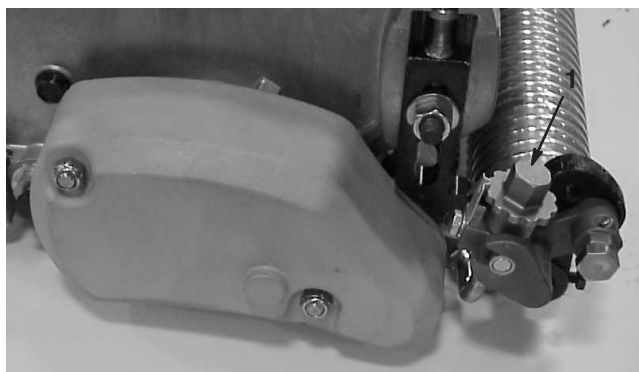

Figure 30
3. On one end of groomer shaft, measure the distance from the lowest tip of a groomer blade to work surface. Turn the groomer height adjusting knob (Fig. 30) to raise or lower blade tip to the desired grooming height. Each notch on the adjusting knob is approximately equal to .003 inch of groomer depth.